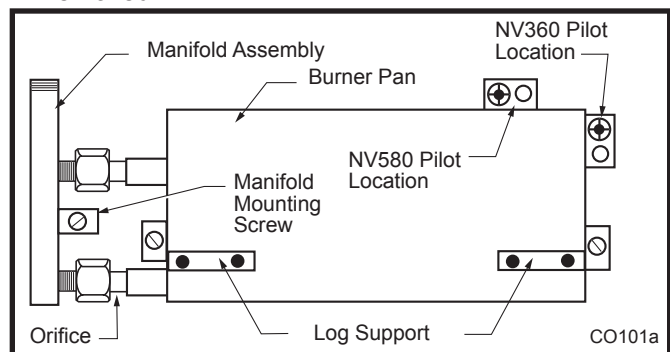

Fig. 24 Remove manifold assembly.
1. Remove manifold mounting screw from burner. (Fig. 24)